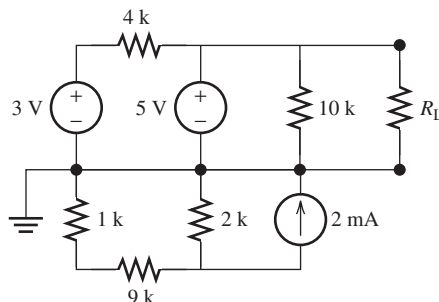

FIGURE P3.72 Circuit for Problem 3.72.
- 3.72** (H) Using the superposition principle, find the Thévenin equivalence seen by R_L in Figure P3.72.